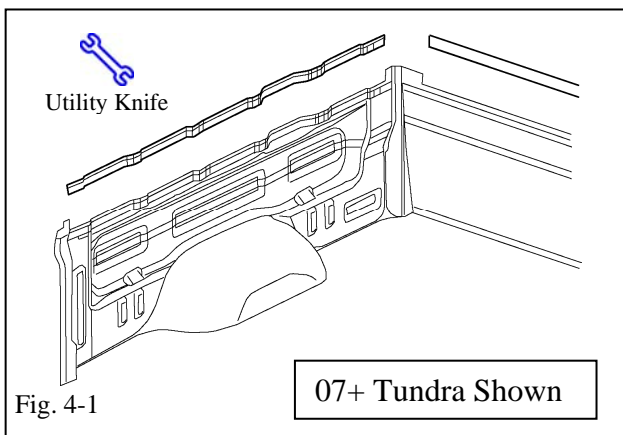

Fig. 4-1
- (b) If a bedrail is present, trim off sections of the sides and/or bulkhead area. (Fig. 4-1) These trim lines are located on the back side of the side walls and bulkhead, and will vary depending on application.